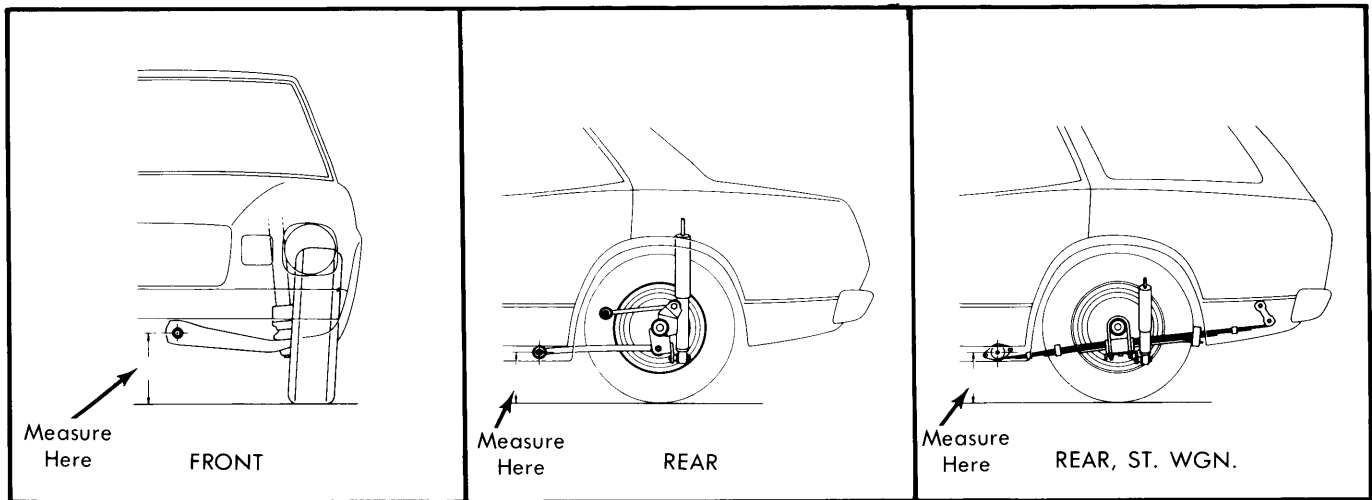

Fig. 1 Riding Height Measurement Points for Celica and Cressida
**Celica, Corona, & Cressida** – Place vehicle on level surface. Jounce body several times and allow suspension to settle. Check riding height according to Fig. 1 or 2 and table.